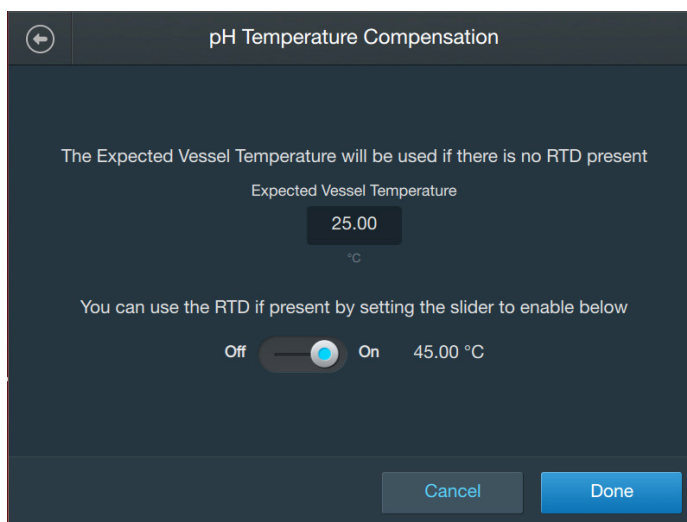

Figure 3.33. pH Temperature Compensation screen.
- If the Temperature module has been configured, you can choose to either enable or disable the temperature sensor. If you choose to disable the sensor, you must manually enter the expected vessel temperature (Figure 3.33).